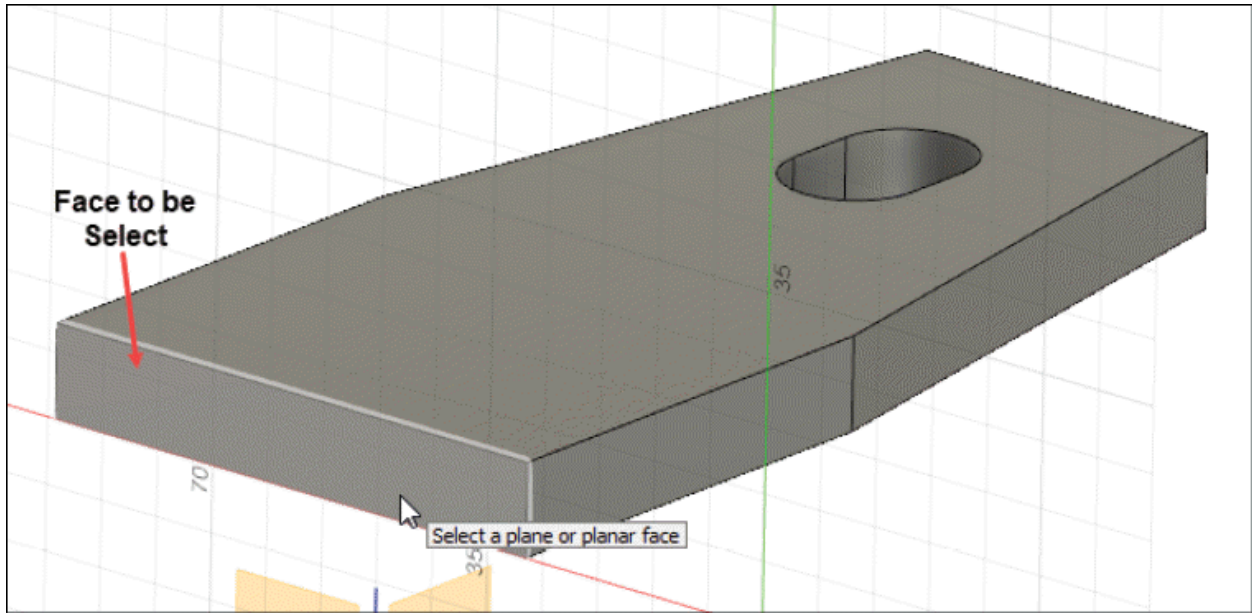

Figure-17. Face to be select for sketching
- Click on the **Create Sketch** tool from **CREATE** drop-down. You are asked to select the plane to create sketch. Select the side face of model as shown in Figure-17.